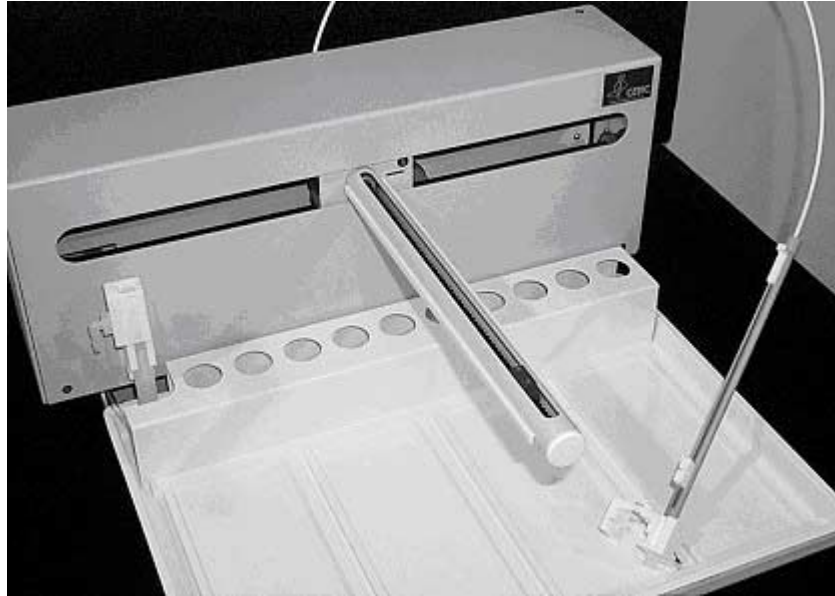

Figure 1-3. Z-drive removed from arm assembly.
2. Next, remove the whole Z-drive assembly from the arm by pulling the whole Z-drive assembly forward and off the Auto-Sampler arm. See Figure 1-3.